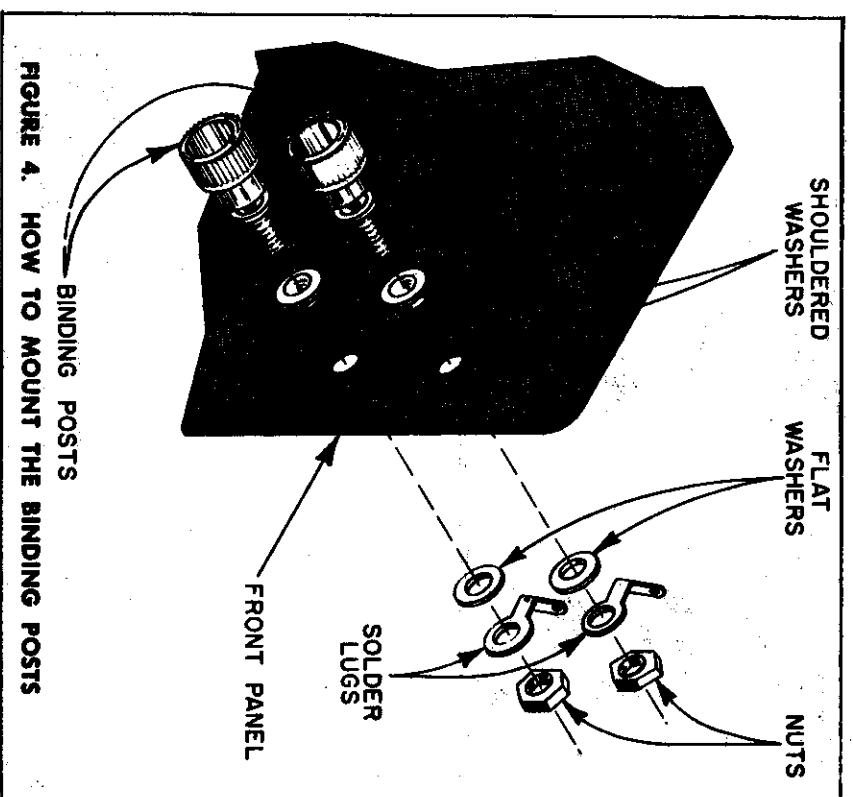

FIGURE 4. HOW TO MOUNT THE BINDING POSTS
- (✓) Mount the five RED Binding Posts (numbered 1, 3, 4, 5, and 6). Each of the binding posts is mounted as follows: Place one of the shouldered fiber washers over the threaded portion of the binding post. Then, insert the threaded section through a hole in the front panel. Place a small flat fiber washer and a solder lug over the threaded section. Attach a nut and tighten it securely. See Figure 4.